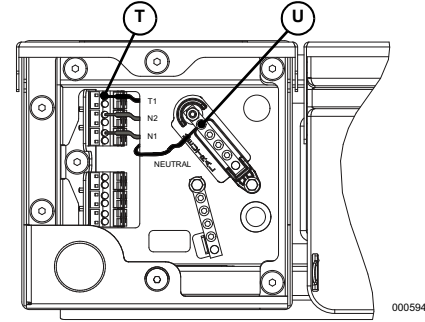

Figure 8.
15. Run wires from breather heater and connect one leg to terminal block T1 (T) and the other leg to the neutral bar (U). (See Figure 8). Tie wrap to secure the wires.